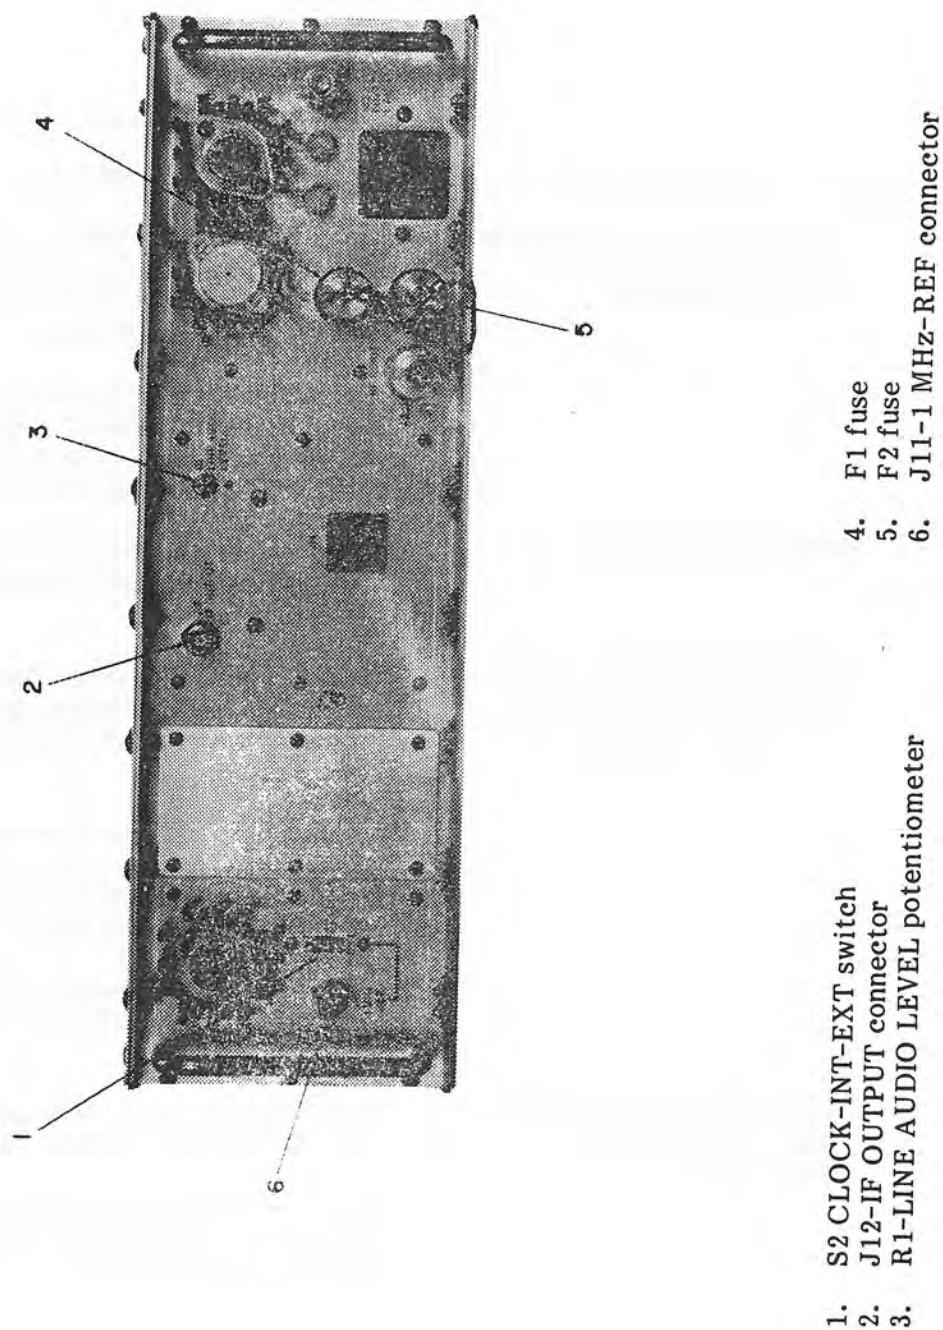

Figure 2-2. Receiver, Rear Panel Controls and Indicators
e. Battle-short or Emergency Operation. There are no special procedures for emergency operation of the receiver. Should the receiver fail to function, verify security of line cord and condition of fuses F1 and F2 (4 and 5, figure 2-2).